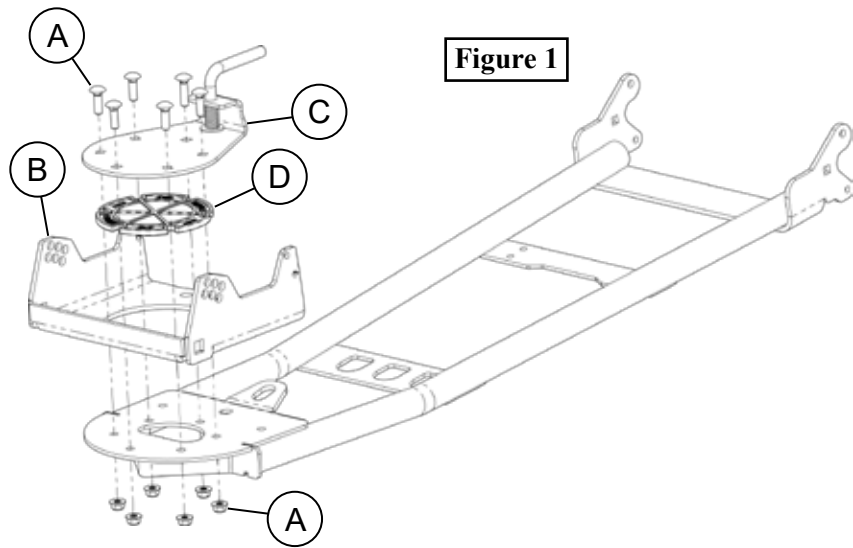

Figure 1
**NOTE:** Mid extension (1) can be installed on either the UTV or ATV push tubes. ATV tube used in reference to this manual.
1. Unbolt hardware (A) and remove cradle (B), Lift latch assembly (C), and pivot bushing (D) shown in **Figure 1**.